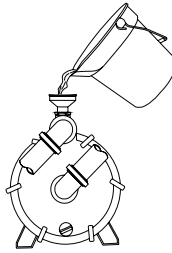

Fig. 7
6. Ensure the pump is primed. If you start to remove the primer cap and water begins to flow out, it is primed. If not, remove the cover and fill the pump with water (Fig. 7). Thread the cap back onto the funnel; tighten.
7. Ensure the pump is primed. If you start to remove the primer cap and water begins to flow out, it is primed. If not, remove the cover and fill the pump with water (Fig. 7). Thread the cap back onto the funnel; tighten.
8. Ensure the pump is primed. If you start to remove the primer cap and water begins to flow out, it is primed. If not, remove the cover and fill the pump with water (Fig. 7). Thread the cap back onto the funnel; tighten.
- B. Remove the pump cap and fill the pump with water (Fig. 7). Thread the cap back onto the funnel; tighten.